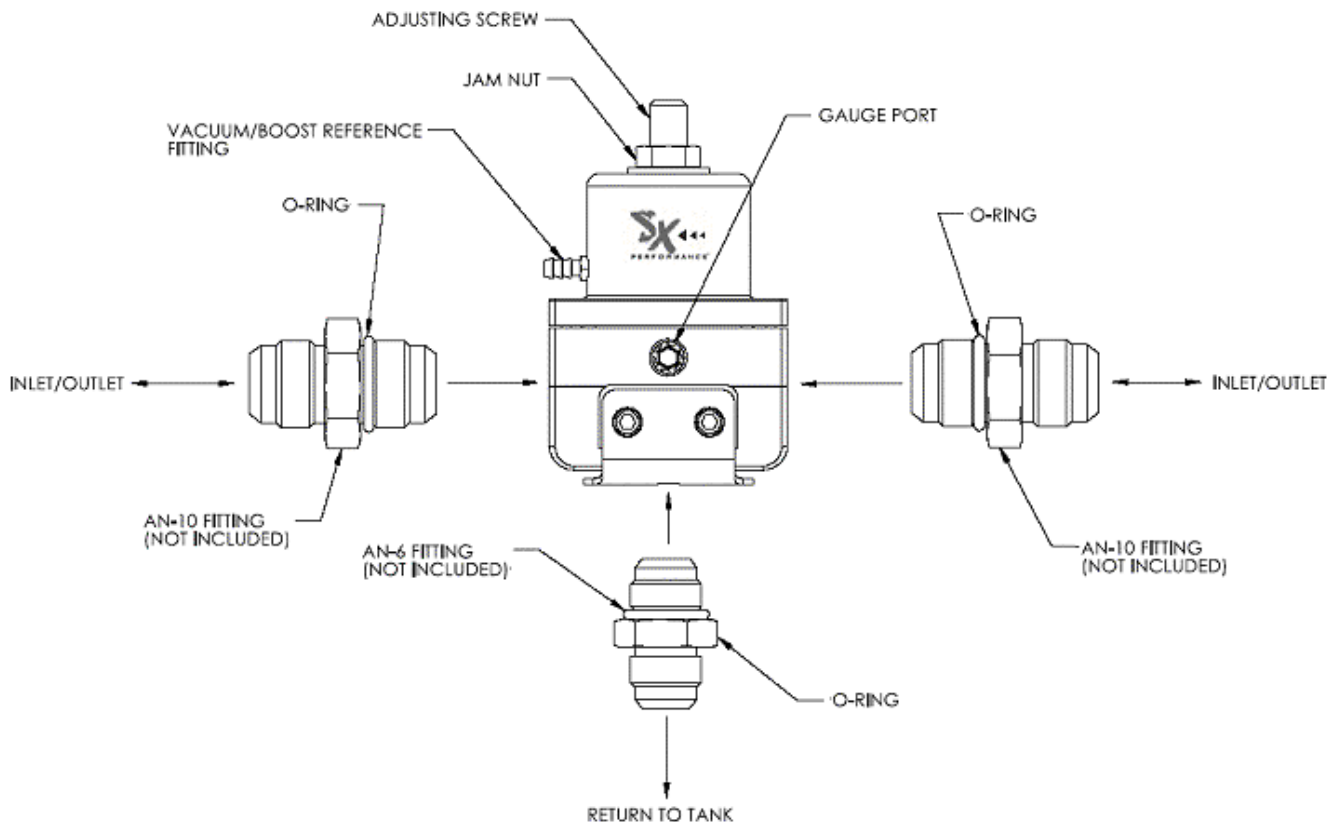

Figure 1 – SX Performance™ Model 15405 Fuel Pressure Regulator
4. Boost Reference Port (Figure 1) is to be used for "blow through" carbureted systems. Blow through systems use a supercharger or turbo to pressurize the carburetor(s). For this application, connect the Boost Reference Port fitting to the "Boost Source". This source must be at the same pressure as the float bowl(s) vents. The fuel gage pressure will then increase with boost at a 1:1 ratio. If the fuel system is not a blow through system, allow the port to vent to the atmosphere. This port is **not** to be plumbed into an intake manifold vacuum source.
5. With a relief style regulator, (one with a return line back to the fuel tank) the inlet and outlet ports are at the same pressure. The regulator returns unused fuel through the return port to regulate the fuel pressure to all outlet ports. Figure 1 shows the inlet and outlet ports for the regulator. The bottom port (labeled return in figure 1.) must be used and is not interchangeable with the inlet/outlet ports. The regulator must be plumbed from this port to the fuel tank. The return line must be at least 3/8" line size (-6) or larger, and plumbed using an AN-6 fitting, or other reducer fitting, from the bottom port of the regulator to the fuel tank or cell. The return line at the tank should be plumbed so that the end of the line is near the bottom of the tank and below the fuel level line. Plumbing in this manner will reduce aeration of the fuel. Avoid sharp bends and 90° fittings where possible. This would result in a
6. Install the o-rings and fittings as shown in Figure 1. Do not use thread sealer on the AN fitting threads. An AN-10 plug can be used to plug any unused outlet ports.
8. Coat the threads of the boost reference/vacuum fitting with thread sealer (not supplied) and install it into regulator port as shown in Fig. 1. Check for leaks around threads after curing. Connect the vacuum line to the boost reference/vacuum fitting on the regulator if so equipped. If no boost/vacuum reference is being utilized, leave the fitting or hole in the regulator cover open to atmosphere
9. Connect and tighten fittings to the inlet and outlet fuel lines, see Figure 1.